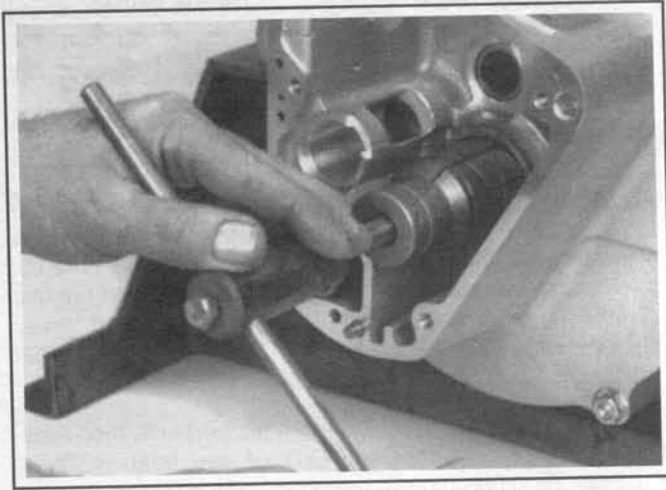

Figure 3-91. Lapping Crankcase Bushing
2. See Figure 3-91. Assemble crankcase halves and top end. Torque all fasteners to specification.